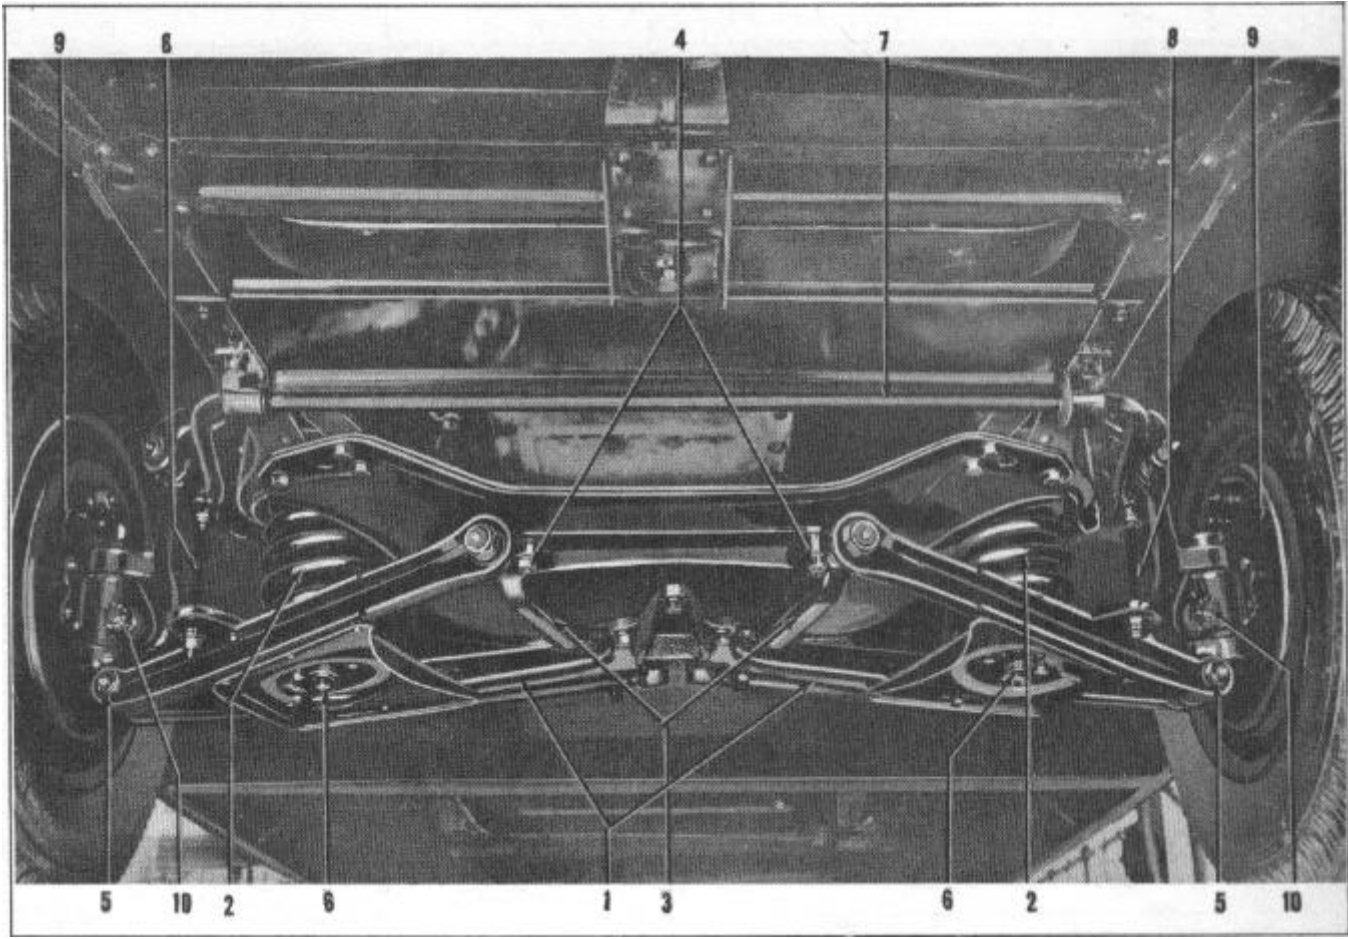

FIGURE 1
1. Raise car and place stand jacks under inner ends of the lower support arms (1), Figure 1.
4. Remove shock absorber lower mounting nuts and washers (6) Figure 1. Turn shock absorber 1/4 turn and remove through opening.
5. Remove lower support arm pivot to frame bolts (4), nuts and lockwashers.
2. Install coil spring (2), Figure 1.
3. Remove front and rear bushings of the lower support arm pivot (3), Figure 1.
4. Remove the four bolts (4) that hold lower pivot to front crossmember.
5. Remove pivot (3) from lower support arm.
1. Install the lower support arm pivot (3), Figure 1.
1. Place a jack under the lower support arm (1), Figure 1, and raise the car.
2. Remove cotter key, nut, and washer from the lower support arm to spindle support pivot pin, (5).
3. Remove the lower pivot pin (5) and bushing.